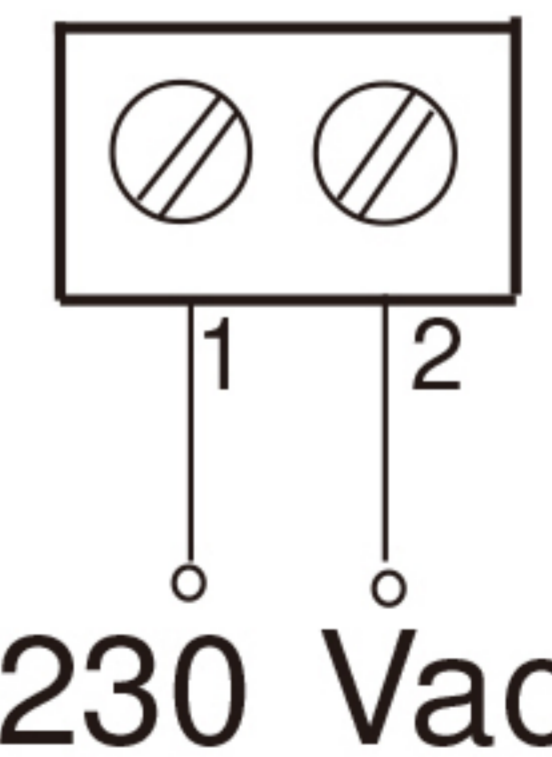

Fig.2
**Beta** gas detector have to be powered at 230Vac by the terminals 1 and 2 (Fig. 2) It has to be provided with an device, to be disowned from the detector and the feeding net, as written in the European Standard EN 60335-1.